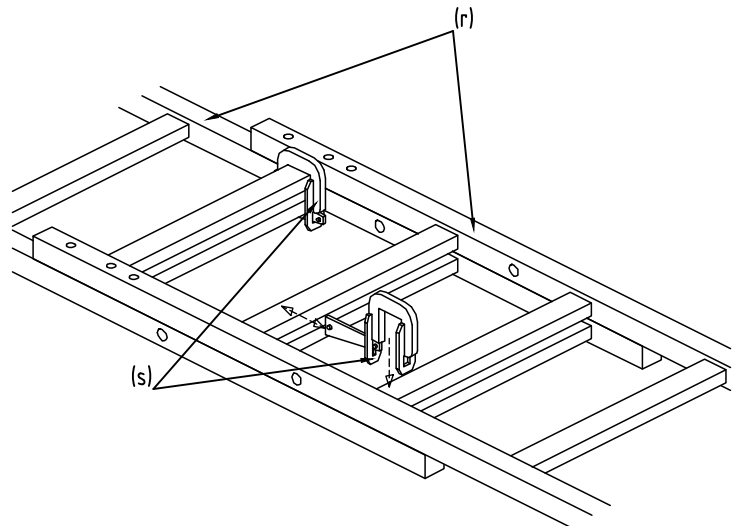

Fig. 13
- 13 Connect ladders (r) with ladder clamp plates (s) positioned diagonally. To do this, pull out the wedge, fit the ladder clamp plates over 2 rungs and hammer in the wedge. The ladders must overlap a min. 2 rungs or 0.5 m (see Fig. 13).